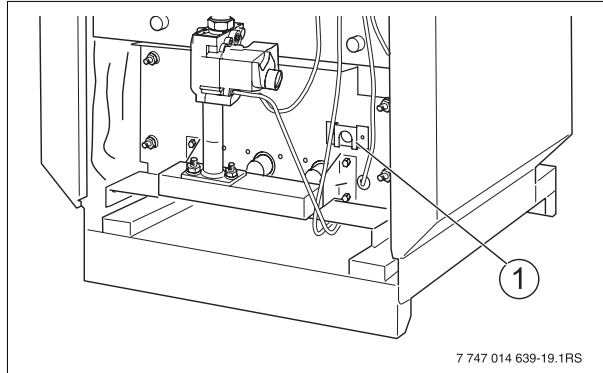

Fig. 32 Inspection hold in the burner cover
15. Observe pilot flame through the inspection hole in the burner cover (→ Fig. 32 page 31).
20. Observe pilot flame [1] through the inspection hole in the burner cover (→ Fig. 32, page 31). The flame must have a steady and fixed contour and generally has a bluish color.